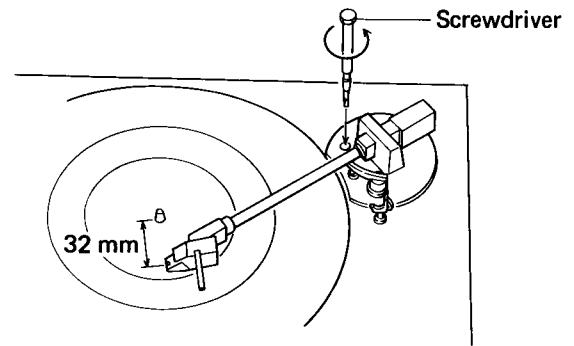

Fig. 9-1 Auto-return adjustment
1. Insert a small flat-head screwdriver into the player through the opening as shown in Fig. 9-1, and turn the index cam counterclockwise until it stops.